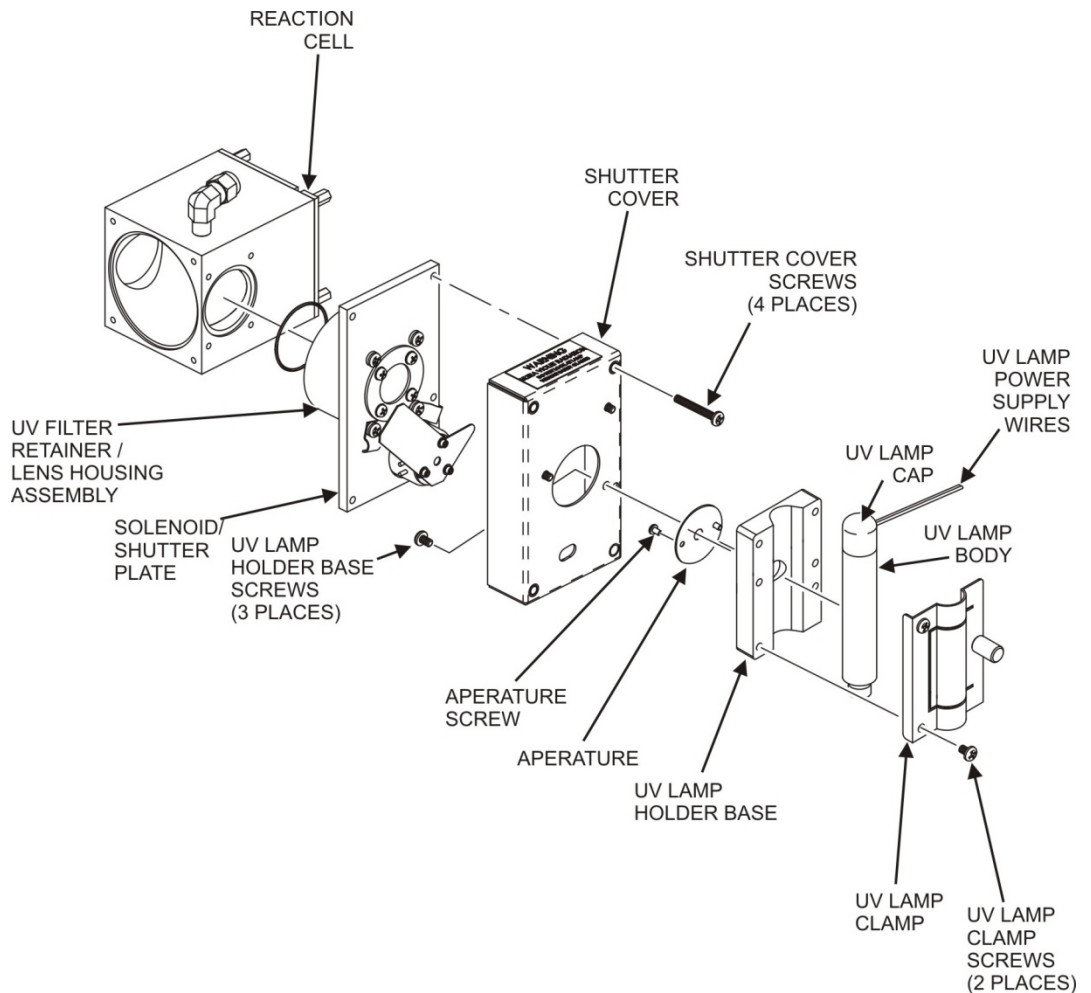
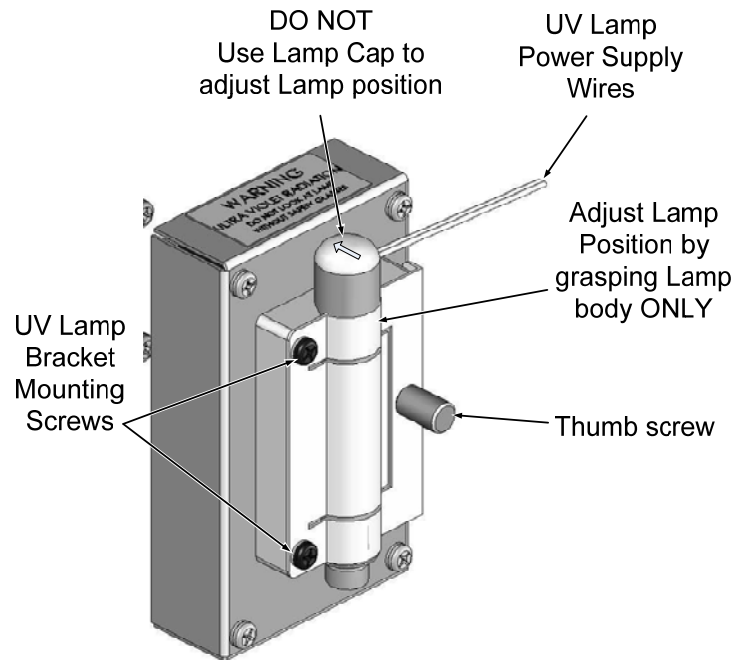

Figure 12-13: Shutter Assembly
Figure 12-14. UV Lamp Adjustment
4. Remove 4 screws from the shutter cover (refer to Figure 12-13) and remove the cover.
2. Slightly loosen the large brass thumbscrew located on the shutter housing (refer to Figure 12-14) so that the lamp can be moved.
**always grasp the main body of the lamp (refer to Figure 12-13).**
4. Loosen, but do not remove the two UV lamp bracket screws and the large brass thumbscrew located (refer to Figure 12-13 and Figure 12-14) on the shutter housing so that the lamp can be moved.
**DO NOT** grasp the UV lamp by its cap when changing its position - always grasp the main body of the lamp (refer to Figure 12-13) Inattention to this detail could twist and potentially disconnect the lamp's power supply wires.